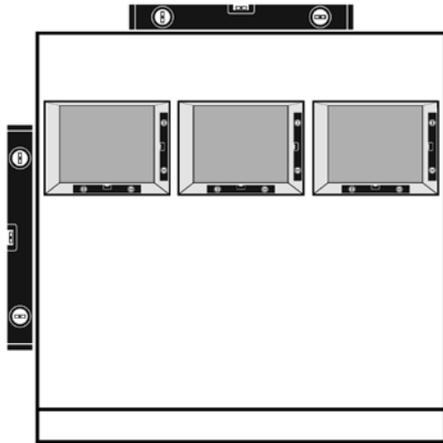

Fig. 1
1. Make sure that the unit is squared and level the support bases. (Fig. 1)
2. Make sure that the individual shelves are perfectly horizontal. (Fig. 1)
2. Make sure that the individual shelves are perfectly horizontal. Otherwise, any misalignment must be corrected after the product has been inserted. (Fig. 1)